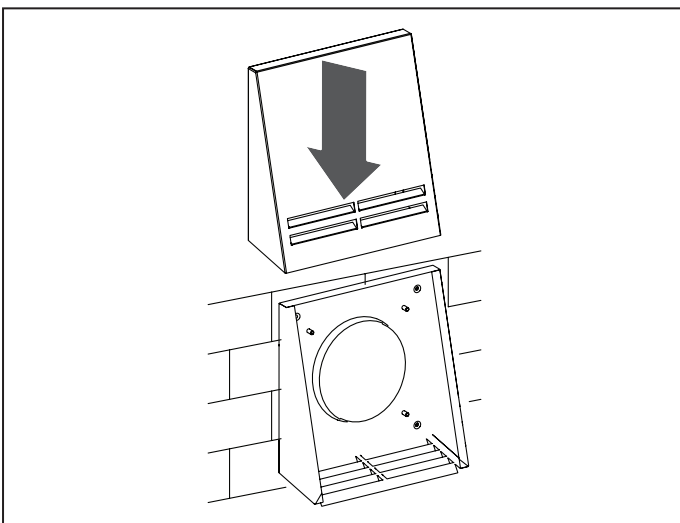

Fig. 16a.
- Fig. 16a – models VENTO Ergo A50 Pro and VENTO Ergo A50-1 Pro;